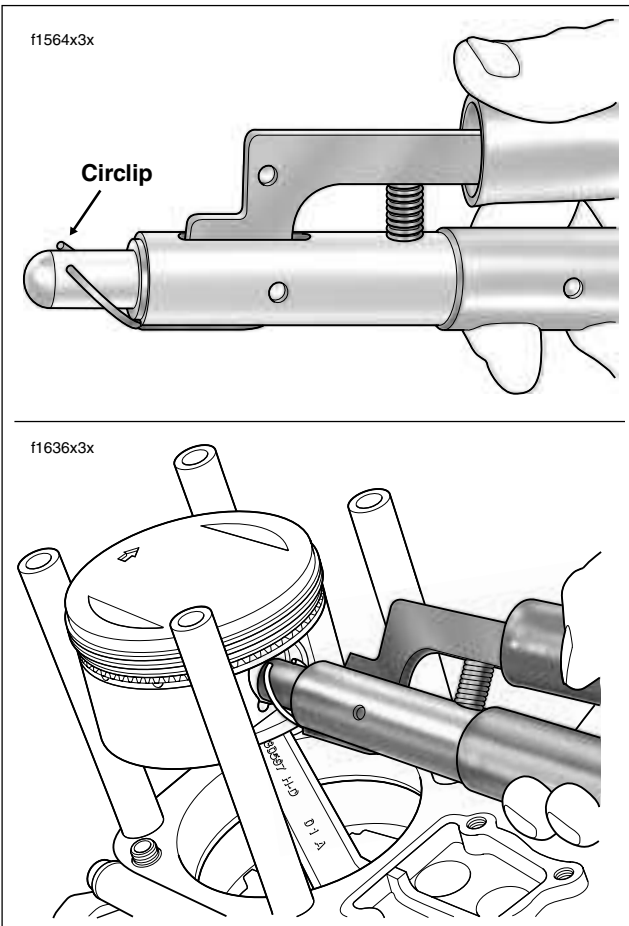

Figure 3-28. Install Piston Pin Circlip
- c. Tilt the circlip forward until the end gap contacts nose of tool. See upper frame of Figure 3-28.